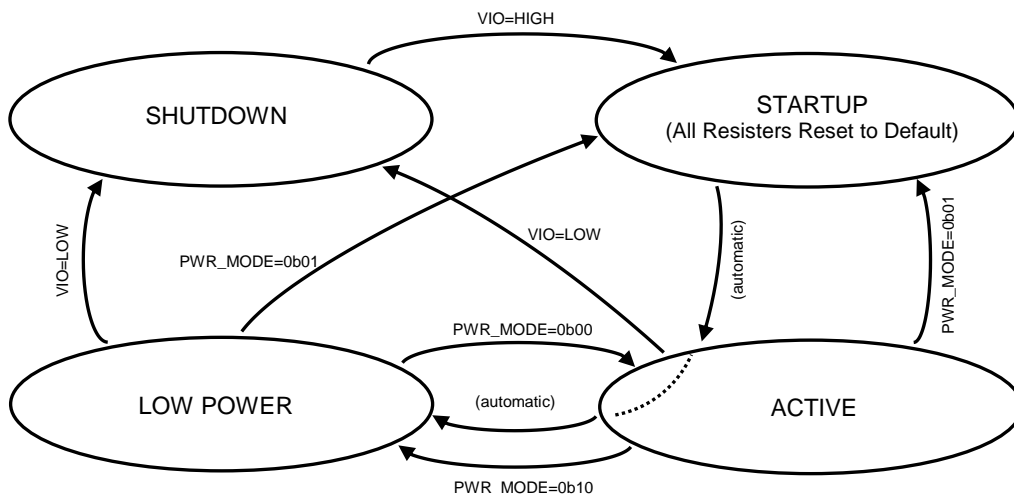

Figure 4. Slave State Diagram
- Figure 4, 5 and Table4 describes the RFASWE660DTF03 has four operating states.
The RFA5WE660DTF03 has four operating states, which are ACTIVE, SHUTDOWN, STATUP and LOW POWER. The transitions between these four states are set writing the PWR_MODE register or VIO as shown in Figure 4. The internal circuit operations in each operating state are shown in Table 4.